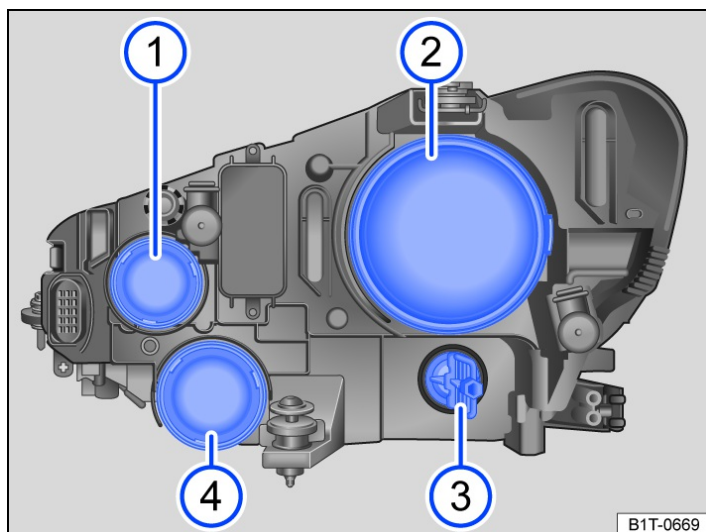

Fig. 1 In the engine compartment: covers on the back of the right headlight.
1. Remove the rubber cover on the rear side of the headlight → *fig. 1* ①.